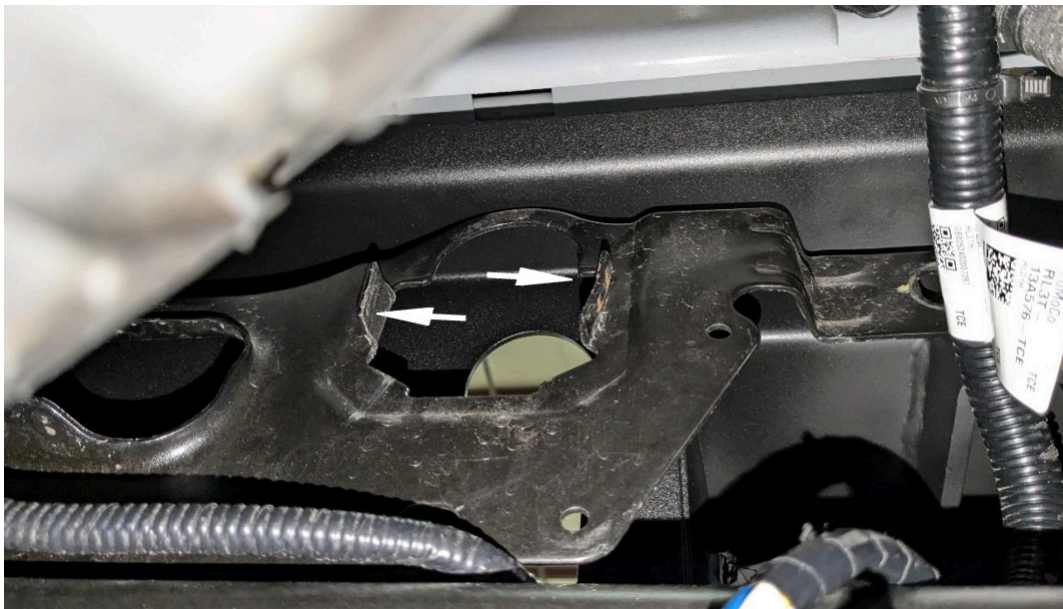

Figure 14
12. The tabs that lock in the trailer plug to the vehicle will either need to be trimmed or bent out of the way. (Figure 14)